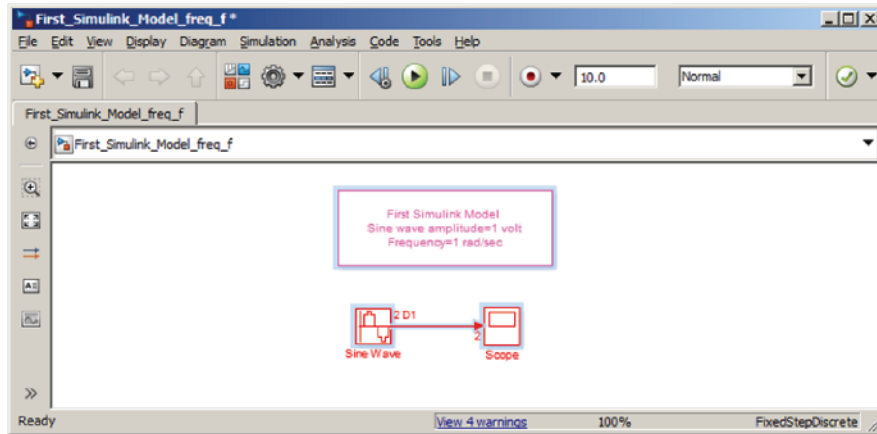

Figure 1.16 Sine Wave Model For Generating Sinusoids at 1 and 10 rad/s.
**Sine Wave** block, opening the block parameters window, and changing the **frequency (rad/s)** setting by inserting the two-element vector  $[1 \ 10]$ . This configures the **Sine Wave** block to generate two sinusoids, one at 1 rad/s, the other at 10 rad/s. This change creates a new model, here renamed **First\_Simulink\_Model\_freq\_f**, shown in Figure 1.16. Note in the model window that the **Sine Wave** output is labeled **2D1** and the input to the **Scope** is labeled **2**, both resulting from setting the frequency to the vector value  $[1 \ 10]$ .
after performing this selection from the **First\_Simulink\_Model\_freq\_f** model window of Figure 1.16. The menu in the center panel lists all the blocks in the selected model.